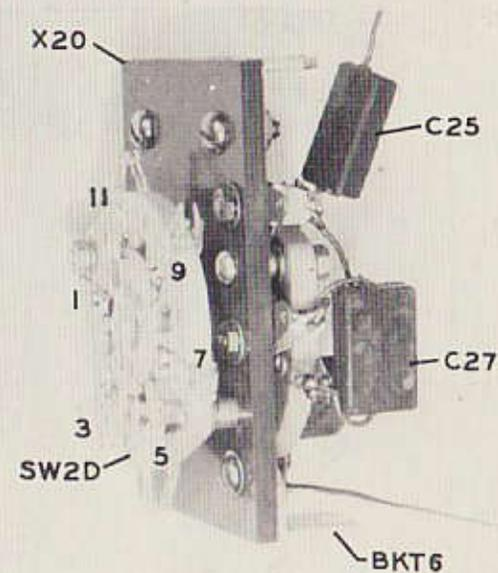

FIG. 2F FINAL SWITCH
- (2) If contacts are not already attached to position 10 (between 9 and 11 -- see Figure 2F) on SW2D, turn the rotor sector away from positions 9 and 11, and add the contacts found in a separate envelope to position 10. Secure the contacts with the 2-56 screw (inserted from the rear), the #2 shake-proof and a 2-56 nut. Reset the rotor sector to its original position where it should now engage contacts 9, 10 and 11.
- (1) Do not connect C24 to the lead, Y28, just above contact 9 of SW2D as directed but connect the lower lead of C24 to contact 10 (see Figures 2F and 5A) instead and solder it.